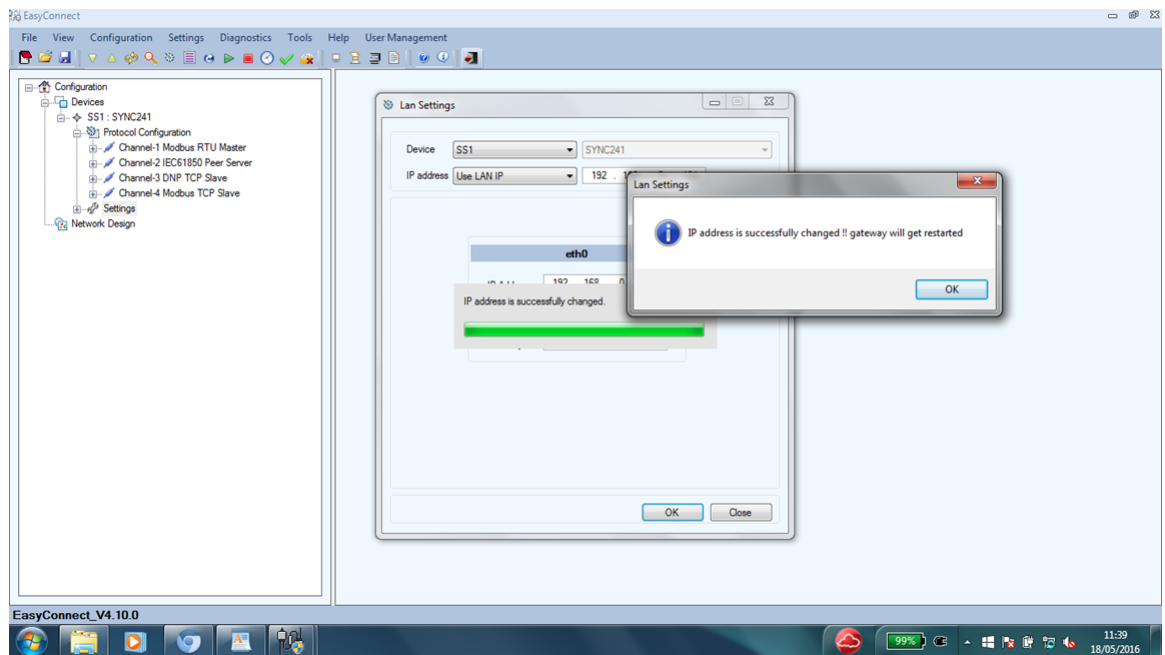

Figure E-18: IP address confirmation
8. The progress bar and subsequent Lan Settings confirmation message as shown in Figure E-18 indicates a successful change of IP address. Click **OK**.